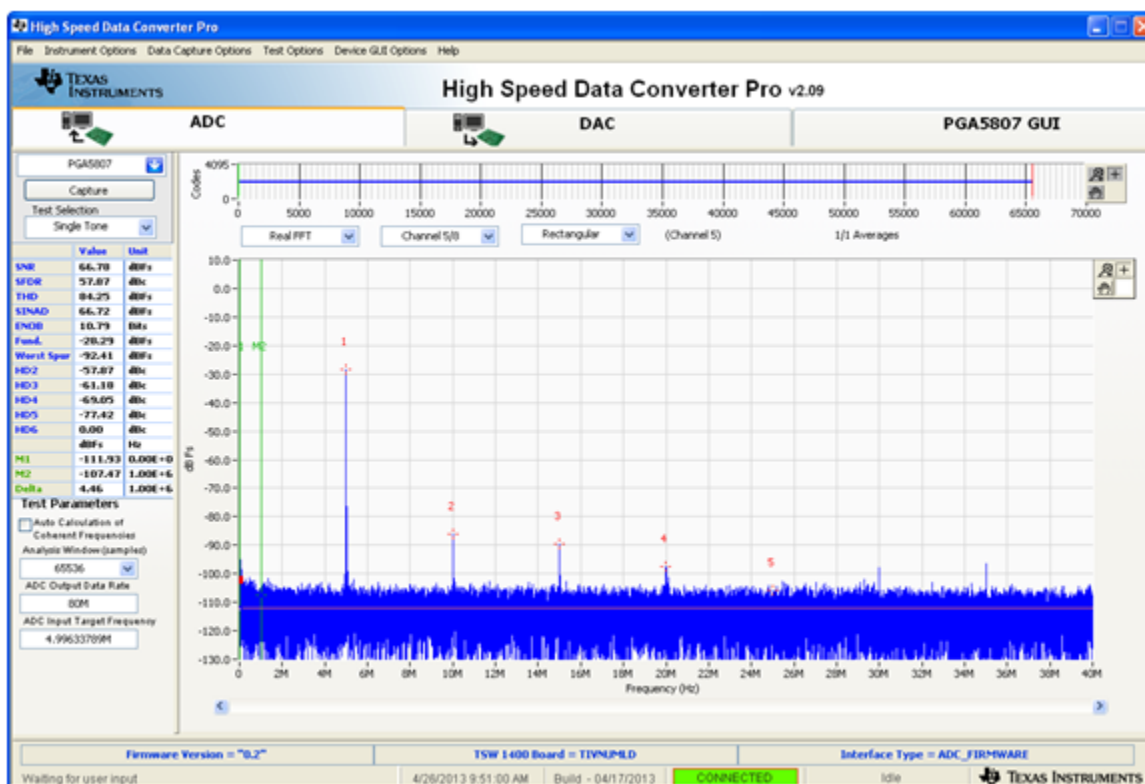

Figure 51. PGA5807+ADS5296 Gain Test Capture 4
- Click on the ADC tab and press the *Capture* button to see the result shown in Figure 51. Again, take the difference in the *Fund.* value shown here to previous capture. This difference should equal the difference in **GAIN[x]** value that was set, or 18dB.